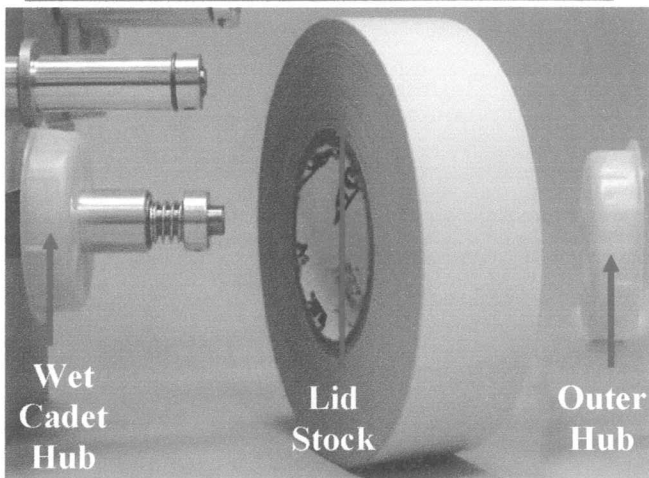

Fig. 1 – Removal of Lid Stock Roll
1. Remove the outer plastic hub by pulling Straight off (see figure 1)